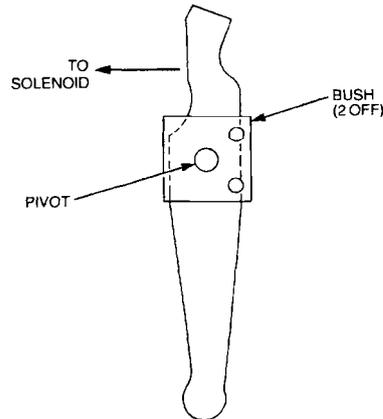

Figure 284 Installing the Pivot Bush
- Position the clutch lever bush halves on the clutch lever and insert the pivot pin (Figure 284).